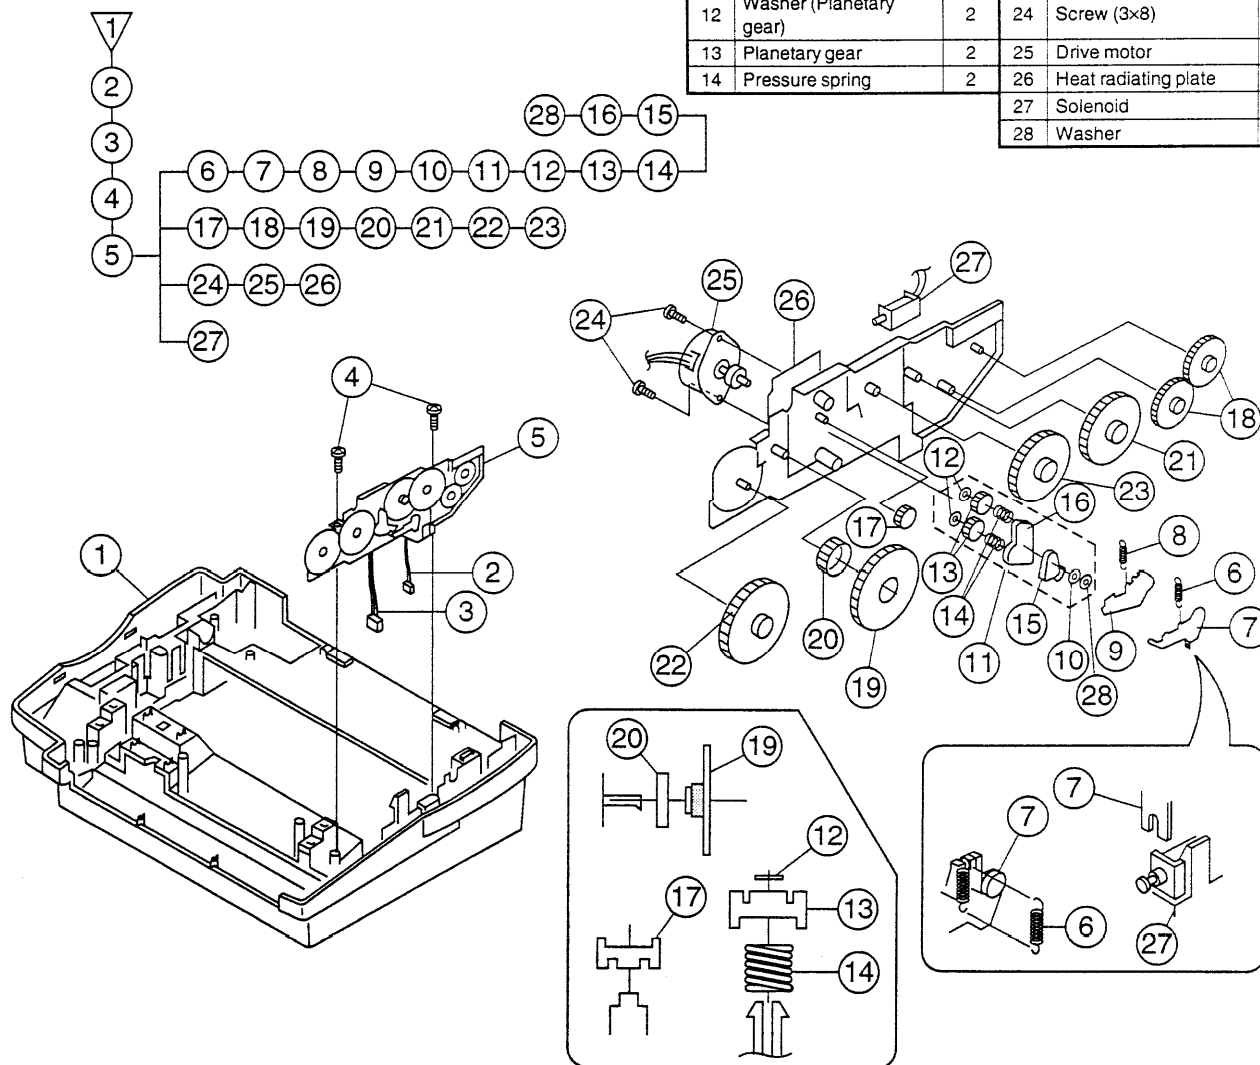

Fig. 8
Parts list (Fig. 8)
- When assembling drive motor ②⑤ in Fig. 8, be careful not to install it upside down. Place the cable port toward the upper side. (Refer to Fig. 8.)
- For insertion direction of the gear, refer to the enlarged view of Fig. 8.
- Apply grease (Molykote) to the shaded portion of gears ⑬ and ⑰. (Refer to the enlarged view.)
- Engage gears ⑱, ⑲, ⑳, and ㉔ securely with the shaft pawl.
- Insert lock pawl ⑦ in Fig. 8 into the dented portion of the solenoid shaft. (Refer to the enlarged view.)
- For inserting direction of lock pawl return spring in ⑥ Fig. 8, refer to the enlarged view.
- Engage drive system unit ⑤ in Fig. 8 with two positioning bosses and fix with a screw.